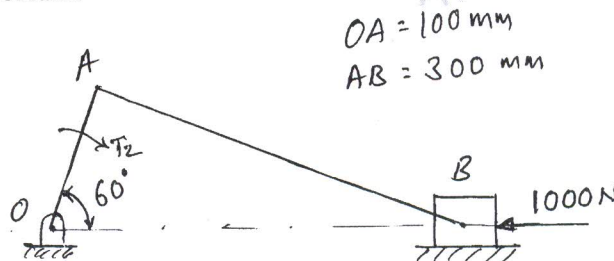

Fig.Q.1(b)
- b. Determine the required input torque on the crank of a slider crank mechanism shown in Fig.Q.1(b) for static equilibrium. (12 Marks)